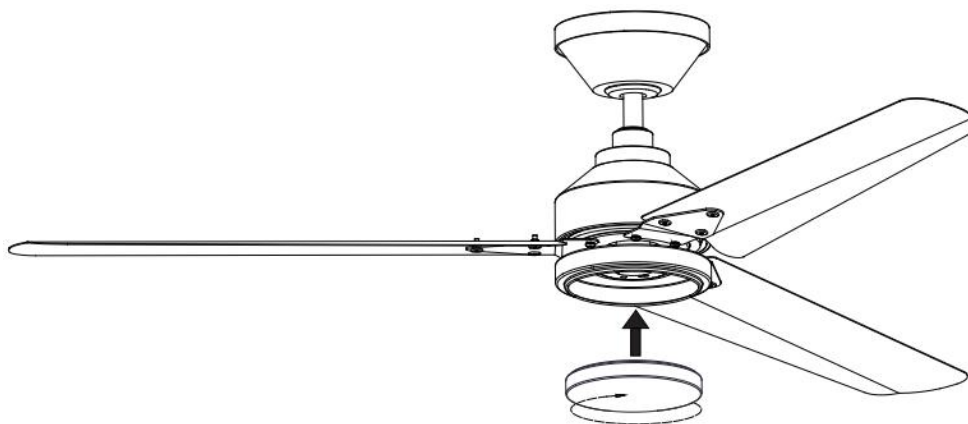

Fig. 11
3. Install the GX53 lamp onto the lamp holder of the fan assembly, and secure it by turning clockwise. (Fig. 11)